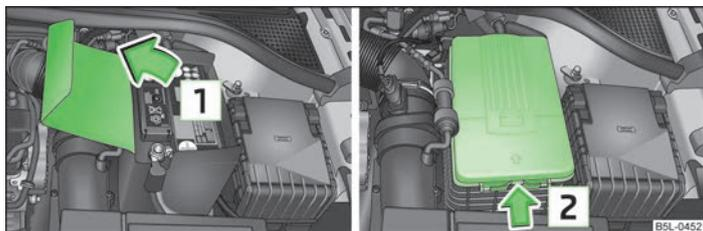

Fig. 146 Engine compartment: Polyester cover of the vehicle battery/plastic cover of the vehicle battery
**1** » Fig. 146 or in a plastic cover  **2** » Fig. 146.
» Open the battery cover in the direction of the arrow  **1** or press the interlock on the side of the battery cover in the direction of the arrow  **2** » Fig. 146, fold the cover up and remove.
**1** » Fig. 146 is inserted between the battery and the side wall of the battery cover.